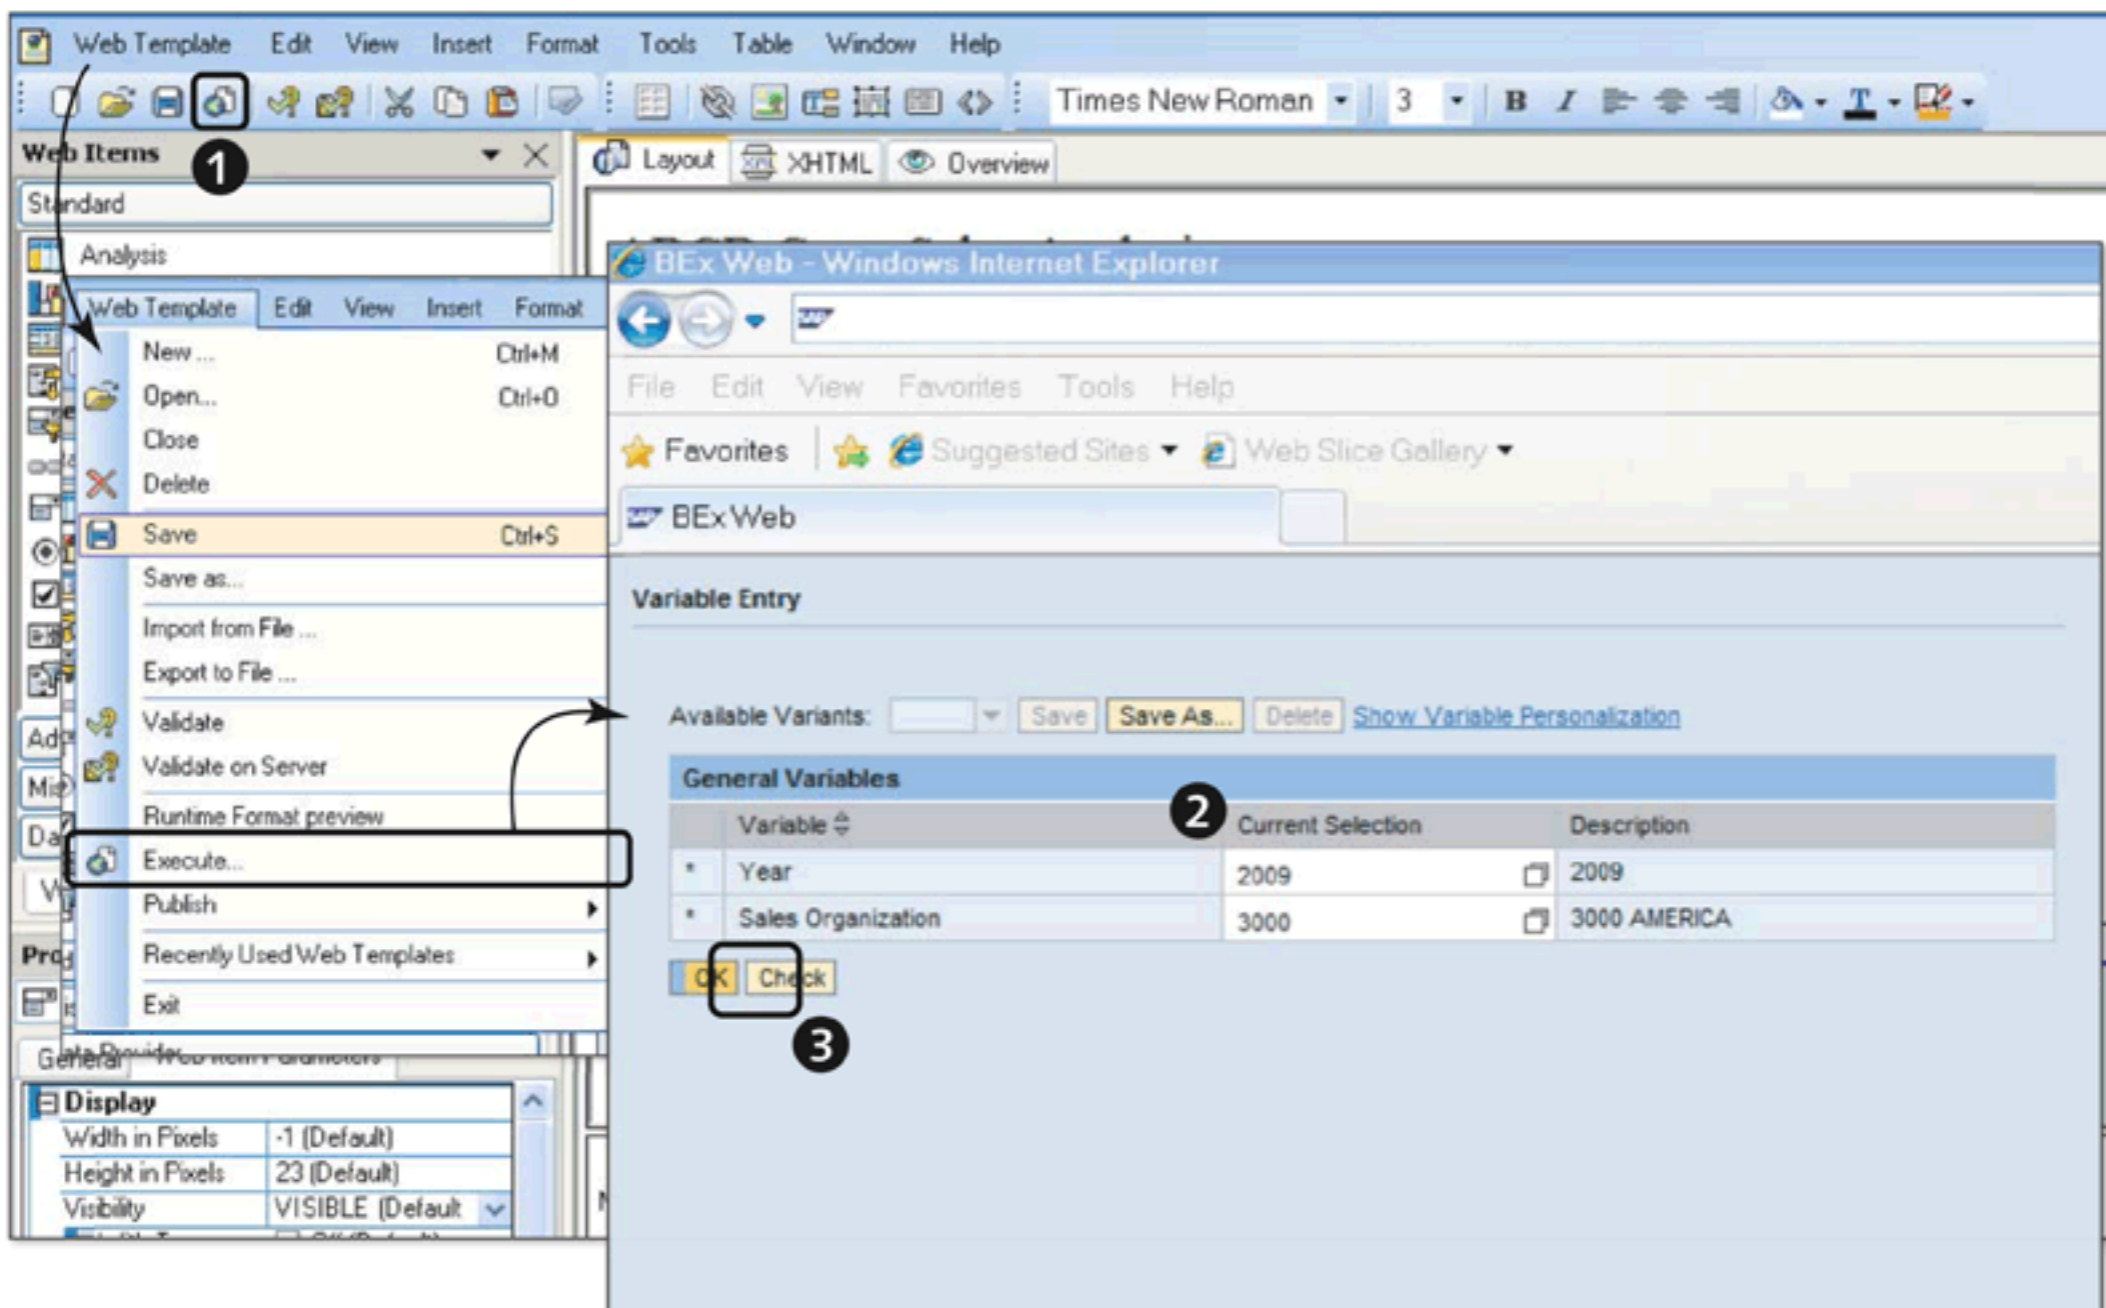

Figure 11.19 Execute the Web Template
Follow the menu path WEB TEMPLATE • EXECUTE to execute the web template, or use the button shown in 1 of Figure 11.19. The web template is executed in a separate web browser window.
If any of the data providers in the web template include user entry variables, then the variable screen is displayed in the beginning, prompting users to make variable entries. Enter the variable selection as shown in 2 of Figure 11.19, and then click on the OK button to execute the web template (3).